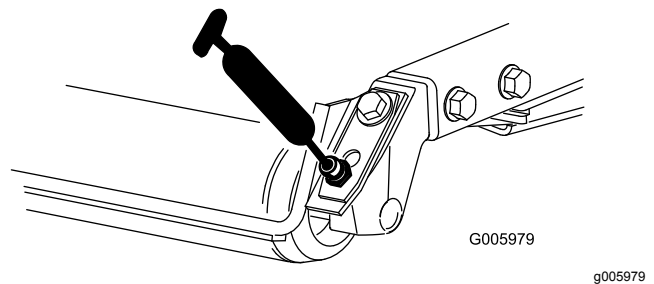

Figure 25
- Rear roller bearings (2 per cutting unit) (Figure 25)